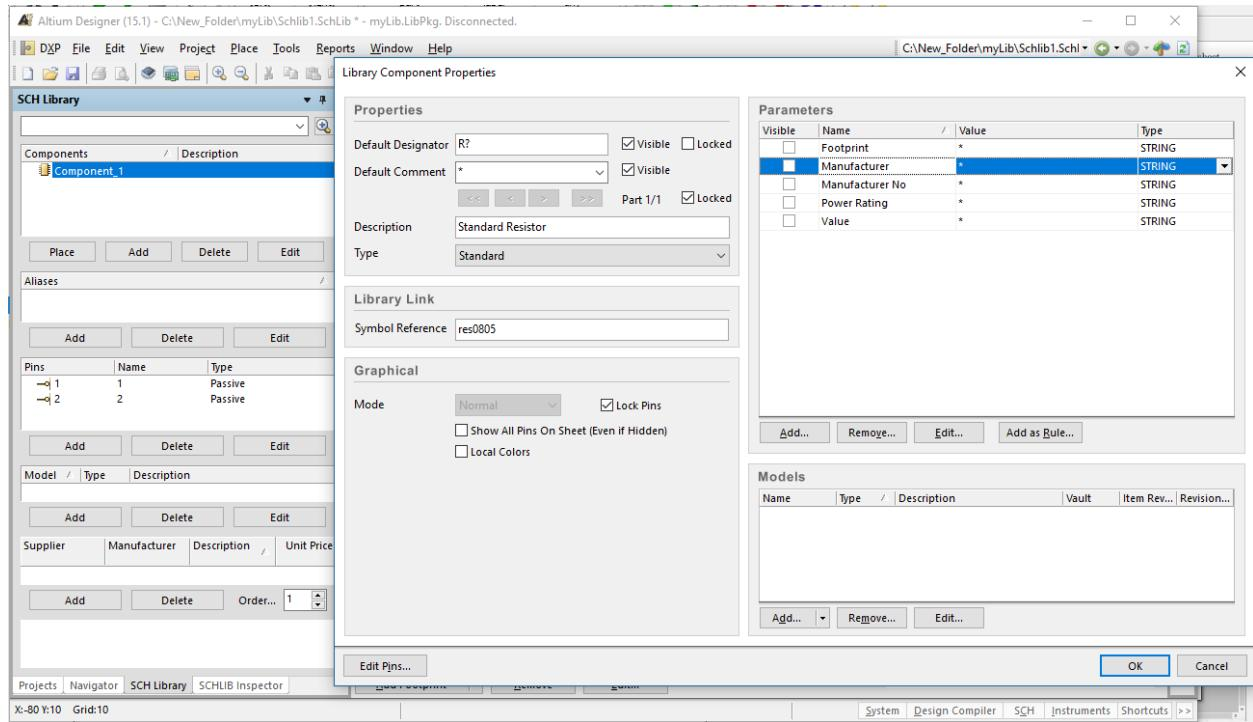

Figure 28: Altium SCH Library Properties.
17. Figure 28 shows the SCH Library view on the left side of the image and the Library Component Properties as a pop up dialog which shows up by doing a double left mouse click one the Component_1 in the SCH Library Components section which is highlighted blue. As parameters could be added for a document parameters can be added to a component as well Which is shown in the pop up as Value, Footprint, Power Rating, Manufacturer, and Manufacturer No. Those properties can be made visible later on in the Schematic after placing a component and can be changed any time. Special care has to be taken by the Default Designator which will be the reference designator shown in the schematic the ? symbol serves there as a place holder for the Annotation tool that can be found under Tools as you are looking at a Schematic document not a Schematic Library Document. A large compendium of reference designators can be found under this link Graphic Symbols for Electrical and Electronics Diagrams [IEEERefDes]. If a specific part is used a supplier can be added with the exact part number which has direct access, online, to suppliers database. Furthermore, you can add spice models which would allow a tool in Altium to perform signal integrity analysis or more common add a footprint which has to be created first. Don't forget to save.